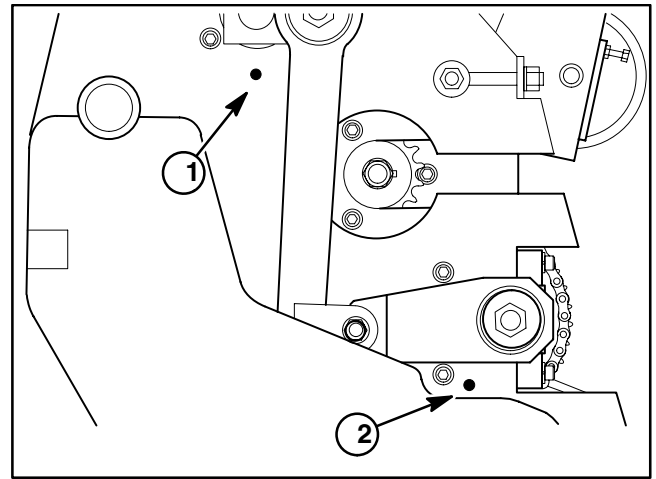

Figure 5
2. Insert alignment pins through holes in coring head plates and crank arm sprockets (see Fig. 5 and Operator's Manual).